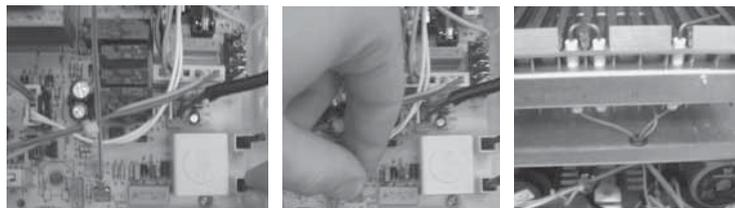

Figure 29
□ Pull off the ignition and flame electrode leads from PCB and remove the wires with gasket on hermetic chamber lower part. (Figure 29)